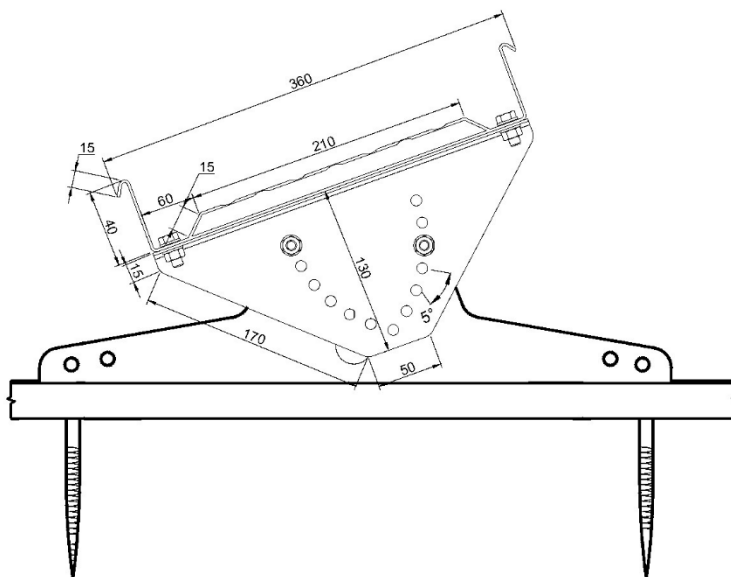

Figure 4.
- Attach the tilt adjustment plate to the RP-bracket plate using 2 M8x14 screws with a nut and washer (Figure 4).